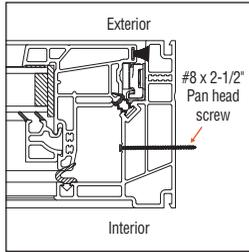
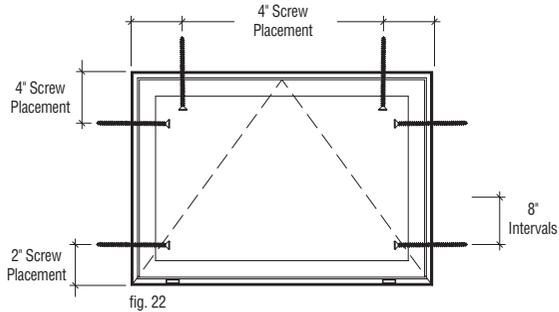

fig. 21
fig. 22
- Pre-drill 1/8" holes in 6 areas as shown on **fig. 21** and **fig. 22**, then at 8" intervals.